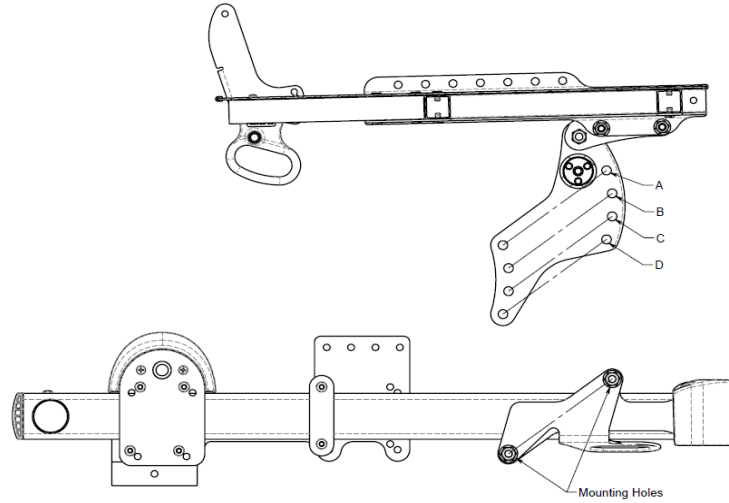

Figure 10.28: *Chair positions*
4. Reposition the sub frame onto the lower frame. There are multiple seat height options for each chair. Refer to Figure 10.28 and Table 10.1. Once the holes on the sub frame, lower frame, and shim are lined up, insert the lower seat height bolt on each side of the frame, this will help with the alignment of the frames. Then the upper seat height bolt can be refit.